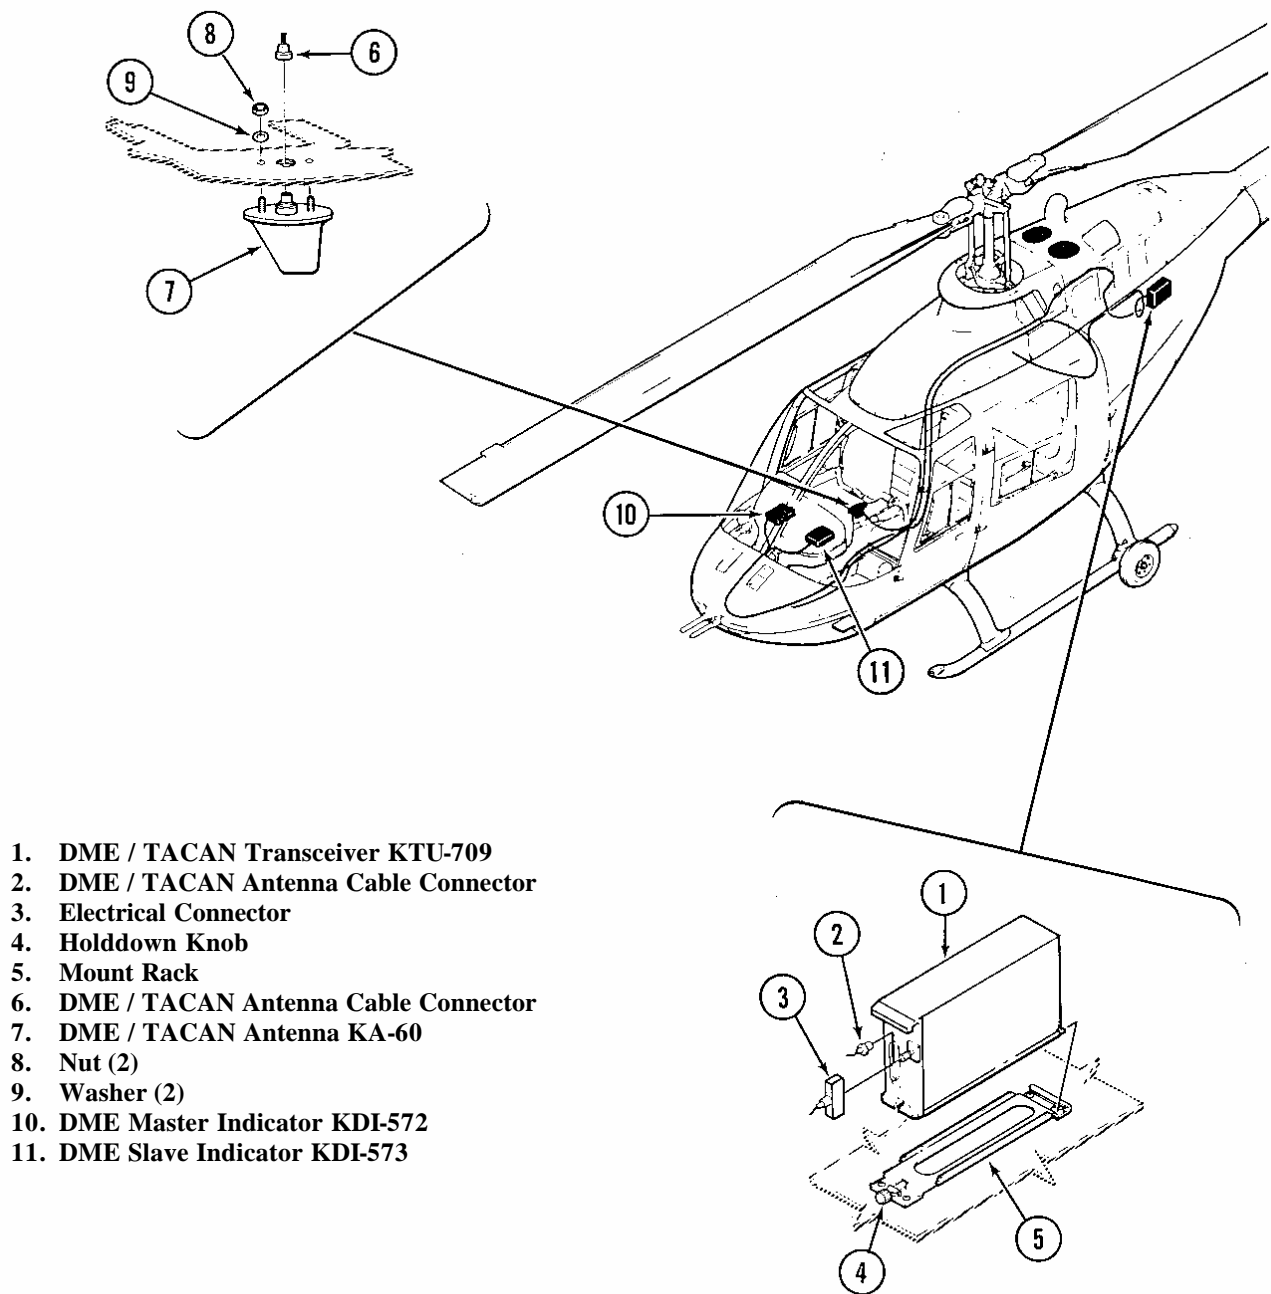

Figure 34-10. DME/TACAN System Component Locations
1. The KTU-709 transceiver (Figure 34-10) is a total solid-state, bearing and distance sensitive receiver. It is located in the aft avionics bay, above the baggage compartment. The transceiver is powered by 28vdc from the essential bus 2.
3. Disconnect antenna cable connector (6, Figure 34-10) from antenna (7).
4. Remove nuts (8) and washers (9) attaching antenna (7) to bottom skin.
2. Align antenna (Figure 34-10) with mounting holes on underside of helicopter.
3. Install antenna and secure with washers (9) and nuts (8).
4. Connect antenna cable connector (6) to antenna.